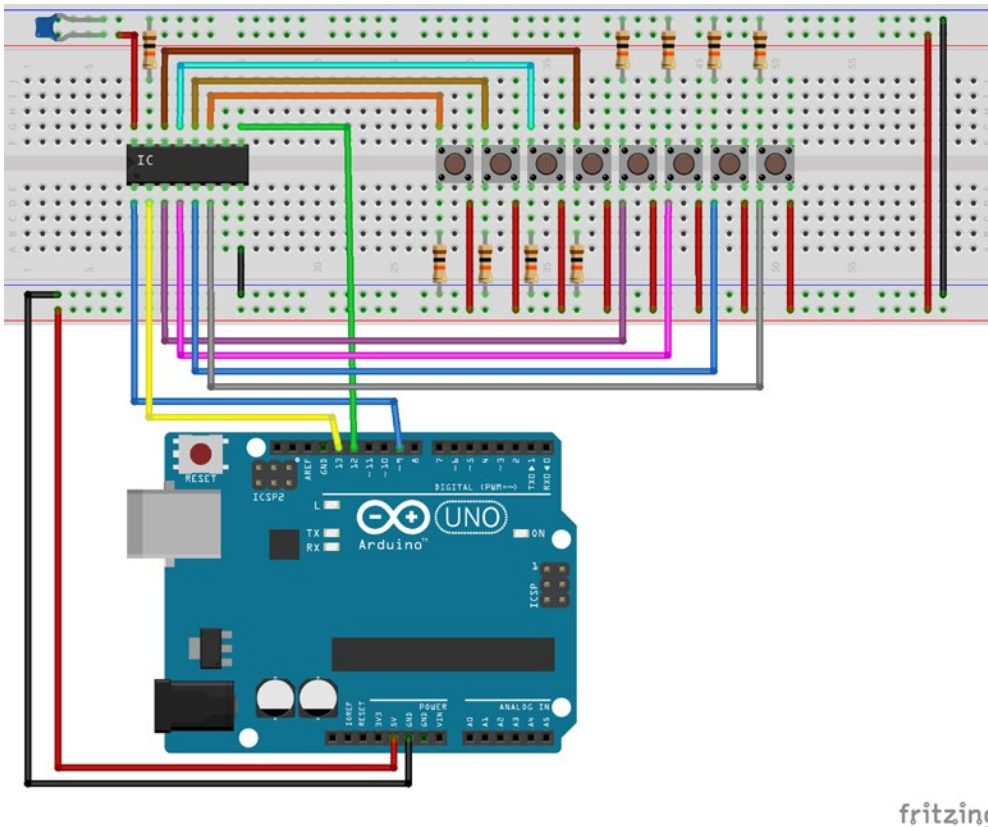

Figure 10-6. Input shift register circuit
The circuit for this IC is shown in Figure 10-6. Each time that we used push buttons in this book, we used the integrated pull-up resistors of the Arduino. With the shift register, we don't have this capability so we need to use external resistors. This time we'll use pull-down resistors as you can see in Figure 10-6. One leg of each push button is connected to a 10KΩ resistor, which is connected to ground. The other leg is connected to the 5V. There's one more 10KΩ resistor connecting the pin 15 (CE) of the chip to ground. There's also a 0.1μF capacitor between ground and 5V. You should place this capacitor as close to the 5V pin of the chip as possible. If you're using the breakout, the 10KΩ resistor of the pin 15 and the capacitor are on the circuit board (you don't even have a label for pin 15, it's not broken out).